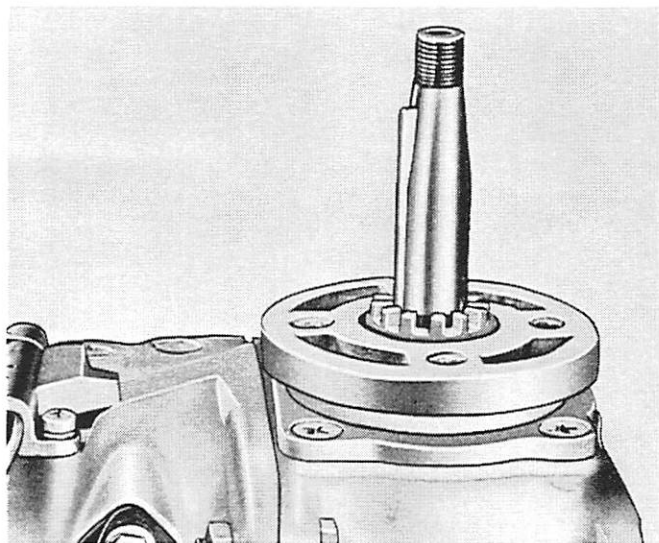

Figure 14. Flywheel Key Position in Lock Nut
9. Place hexagon castellated nut on crankshaft, line up notch of nut with key way in shaft so that key will fit and tighten nut (left hand thread). (Figure 14)